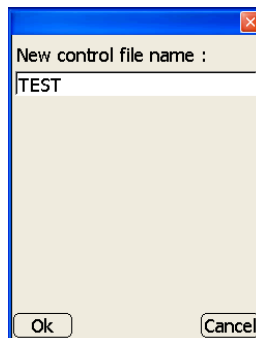

Figure 2-3. Enter Control File Name Dialog Box
5. On the **New control file name** dialog box, tap the blank entry box to display the pop-up keyboard. Enter the name for the Control Point file; press **Ok** on the pop-up keyboard to continue. The Control Point File name displays (Figure 2-3).